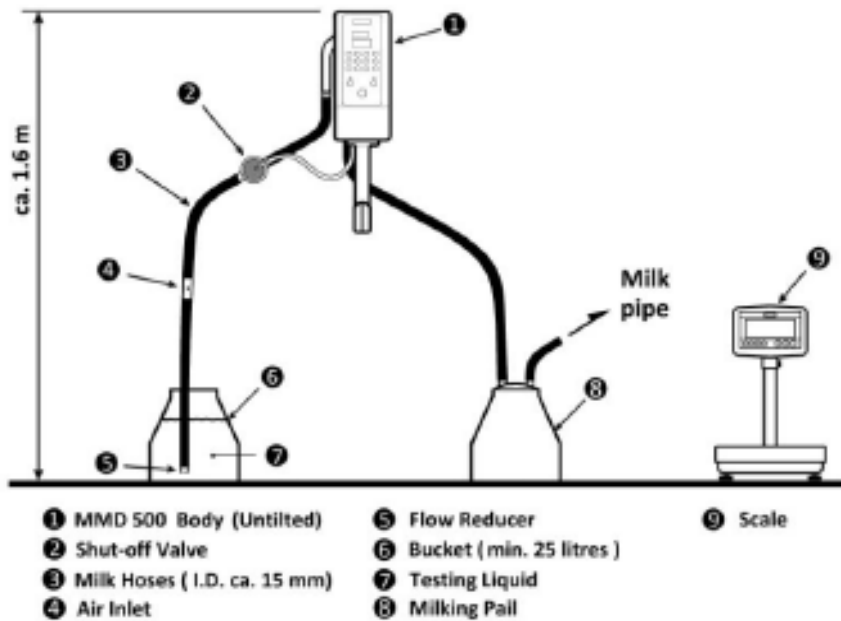

Fig. 1. Water test.
3 Required equipment (ref. Fig. 1 & 2)
- e. Milk hoses with a 15-16 mm internal diameter (refer the Fig.1).
- e. Prepare for the test as figure 1.